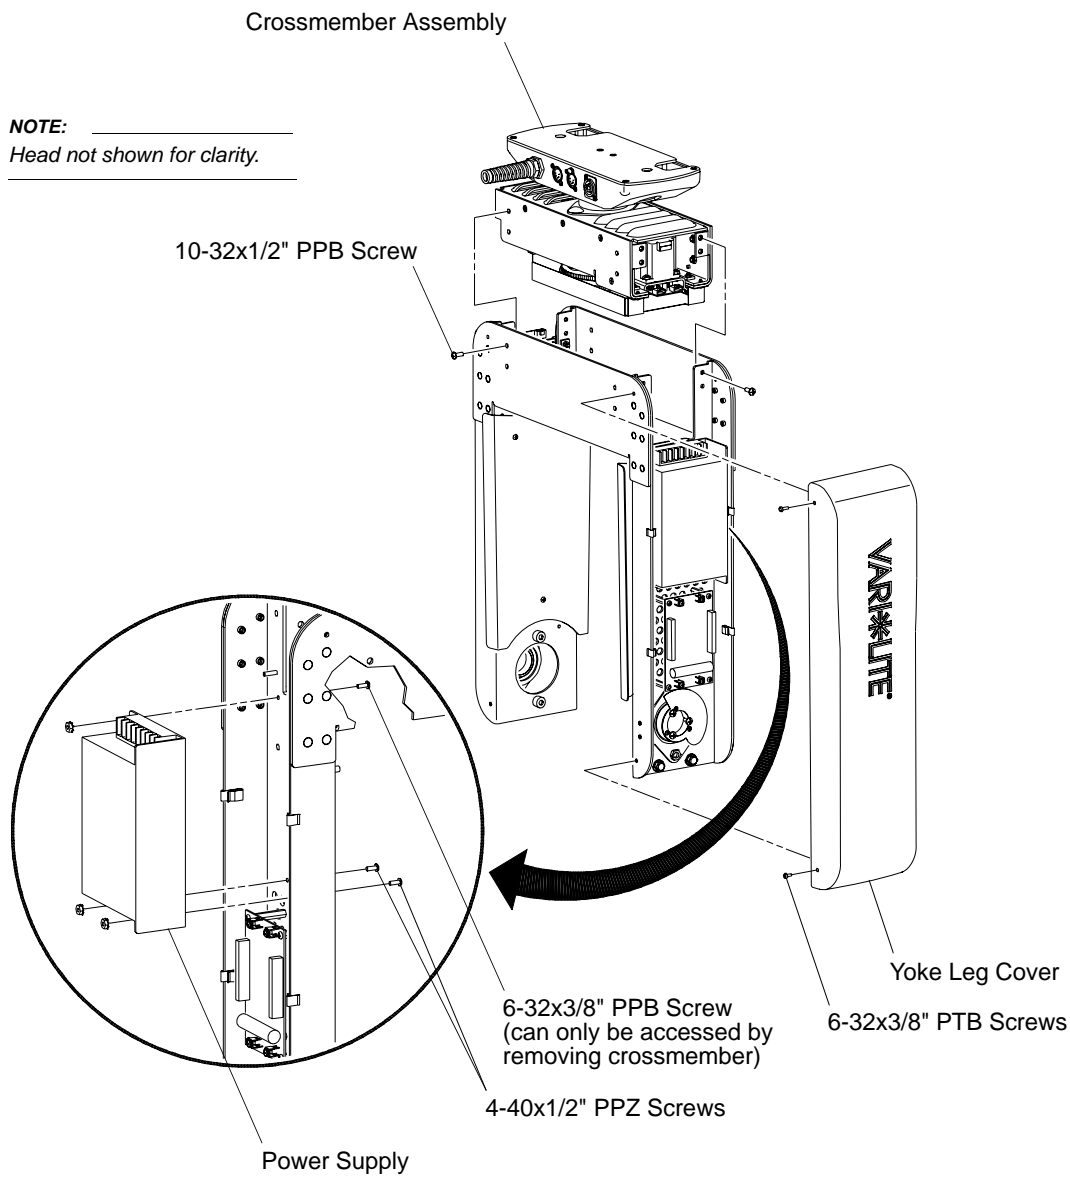

Figure 2-23: Power Supply Replacement
- Step 2. Remove yoke leg cover (side without menu display) by removing four 6-32x3/8" PTB screws as shown in Figure 2-23.